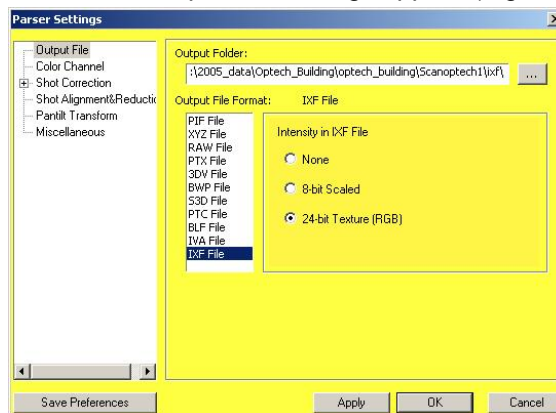

Figure 19: Output file settings
4. Select **Settings > Output File**. The Output File settings appear (Figure 19).